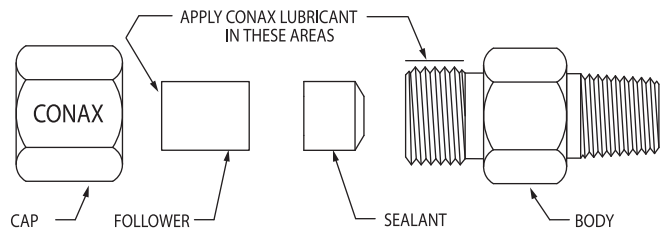

Figure 2
1. Apply a small amount of lubricant, tear drop equivalent, in two to three places, equally spaced, to the top of the follower. Do not allow the lubricant to directly contact the sealant or the elements you are sealing. Refer to Figure 2.
2. Apply a single line of lubricant to the full length of the straight thread on the gland body. Refer to Figure 2.